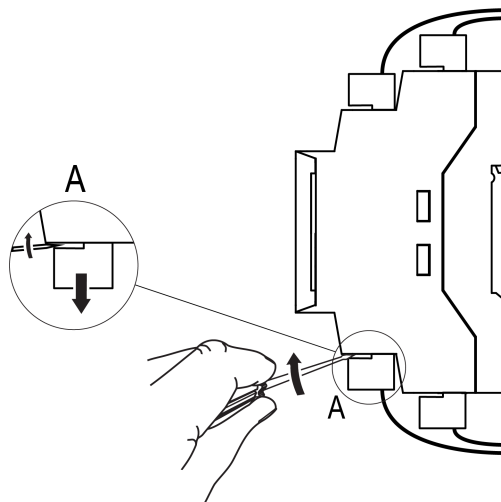

Fig. 5.3 Quick replacement
2. Using a screwdriver or a similar tool, unplug the terminal blocks with existing wiring connected (see Fig. 5.3).